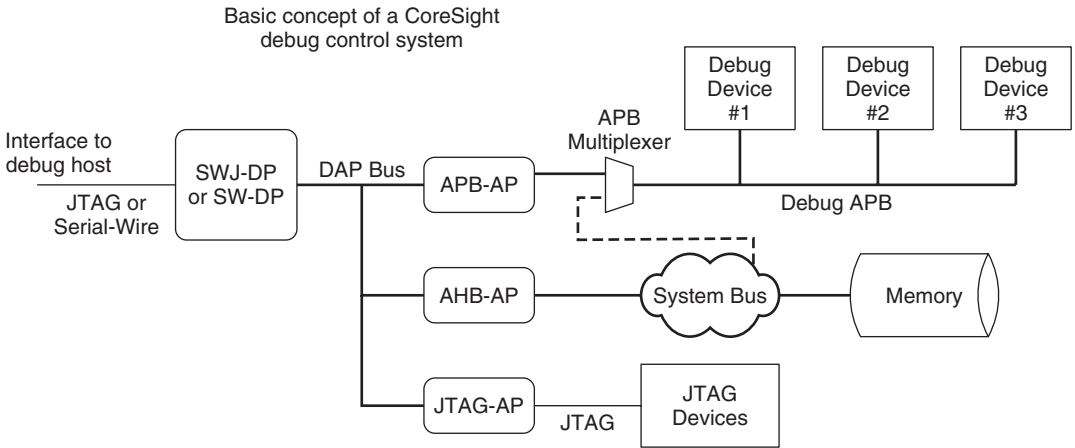

Figure 15.2 Design Concept of a CoreSight System
- The debug components are part of the system memory map, whereas in standard CoreSight systems, a separate bus (with a separate memory map) is used for controlling debug components. For example, the conceptual system connection in a CoreSight system can be like the one shown in Figure 15.2.